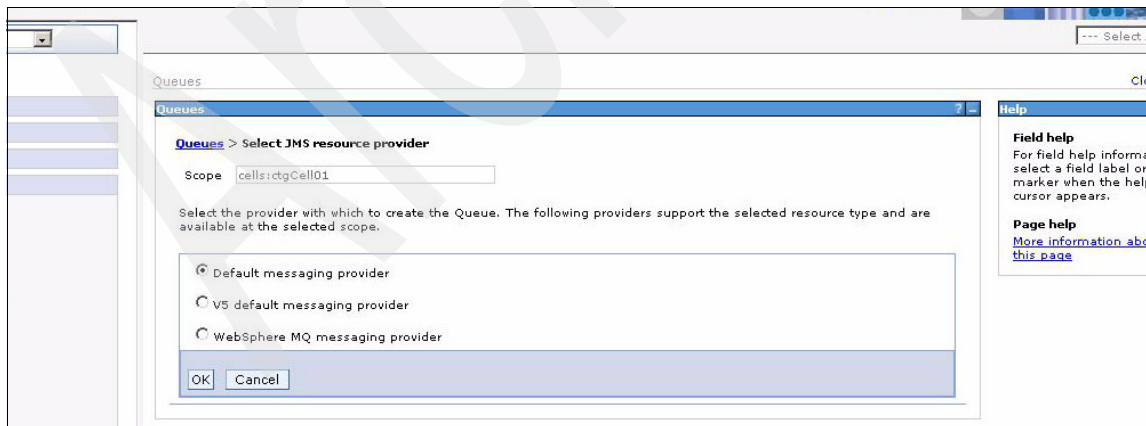

Figure A-41 Default messaging provider
3. Select Default messaging provider and click **OK** (see Figure A-41).